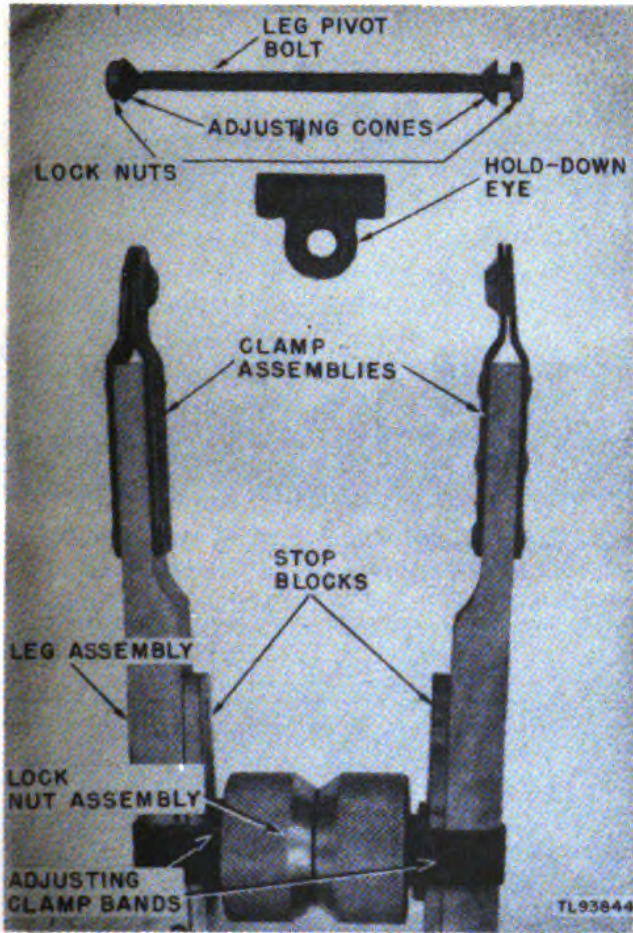

Figure 137. Leg assembly removed from tripod.
a. Remove the locknut from the leg pivot bolt. (See fig. 137.)
78. Replacing Tripod Leg Assembly (fig. 137)
79. Replacing Tripod Leg Section (figs. 137 and 138)